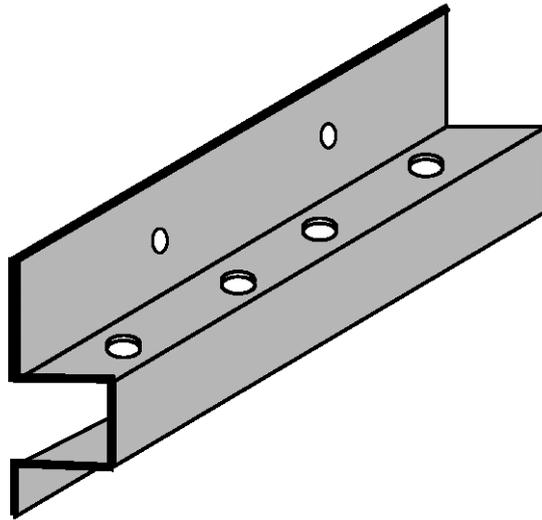
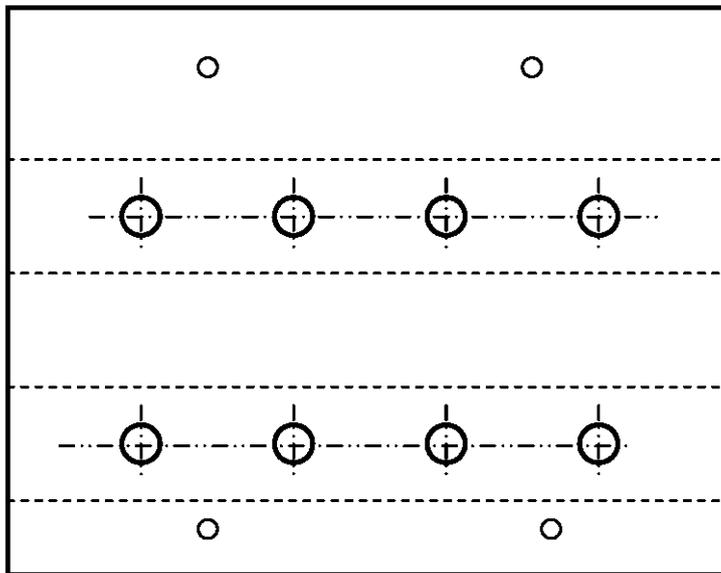

Fig. 8
Fig. 9
- 7 **Fig. 8** shows a design for a wall mounted tool holder which is to be made from one piece of aluminium 1.5 mm thick. **Fig. 9** shows the aluminium for the holder before it is shaped.